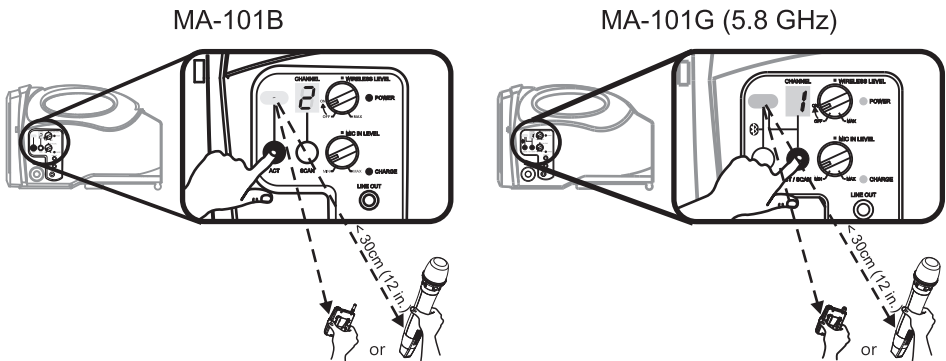

Fig. 4
- (C) Setting ID code:
- (1) Press & hold the SCAN button. Concurrently, turn on the Power Switch/Wireless Mic Volume Control. Press & release the SCAN button will move up to the next available ID code. Turn off the Power Switch/Wireless Mic Volume Control to save this ID CODE.
- (2) Turn on the Power Switch/Wireless Mic Volume Control back on again to perform the ACT synchronization with embedded ID code. Without performing this ACT synchronization step, no sound output because the ID codes has been changed even though the same channel number remains the same.
3. Automatic Transmitter Channel Sync, Fig. 4:
- (A) Turn on the transmitter.
- (B) Press the ACT sync button on the receiver. The Channel indicator will blink indicating that ACT sync mode is active.
- (C) Align the sync windows of both transmitter and receiver at a distance of <math>< 30\text{ cm}</math> (12-inch) and hold until Channel indicator stops blinking, See Fig. 4.
- (D) Sync is done successfully when Channel indicator stops blinking, the system is ready for use.
- (E) If ACT sync fails, repeat the sync procedure, carefully maintaining alignment between windows of both transmitter and receiver.